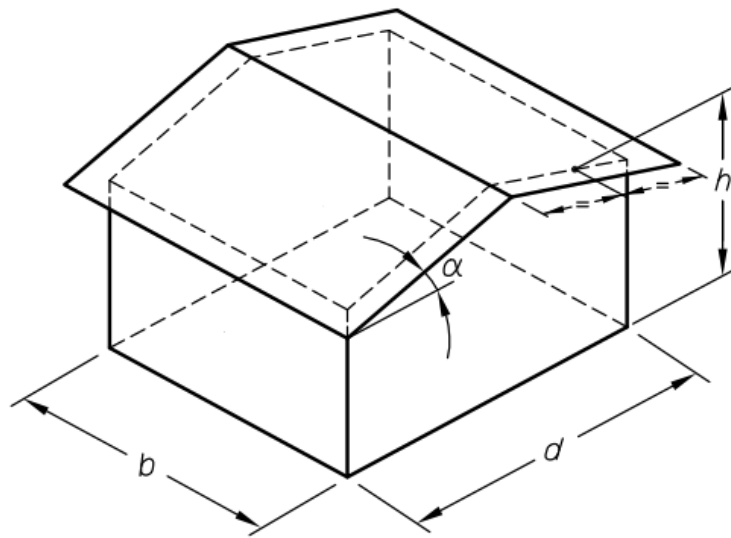
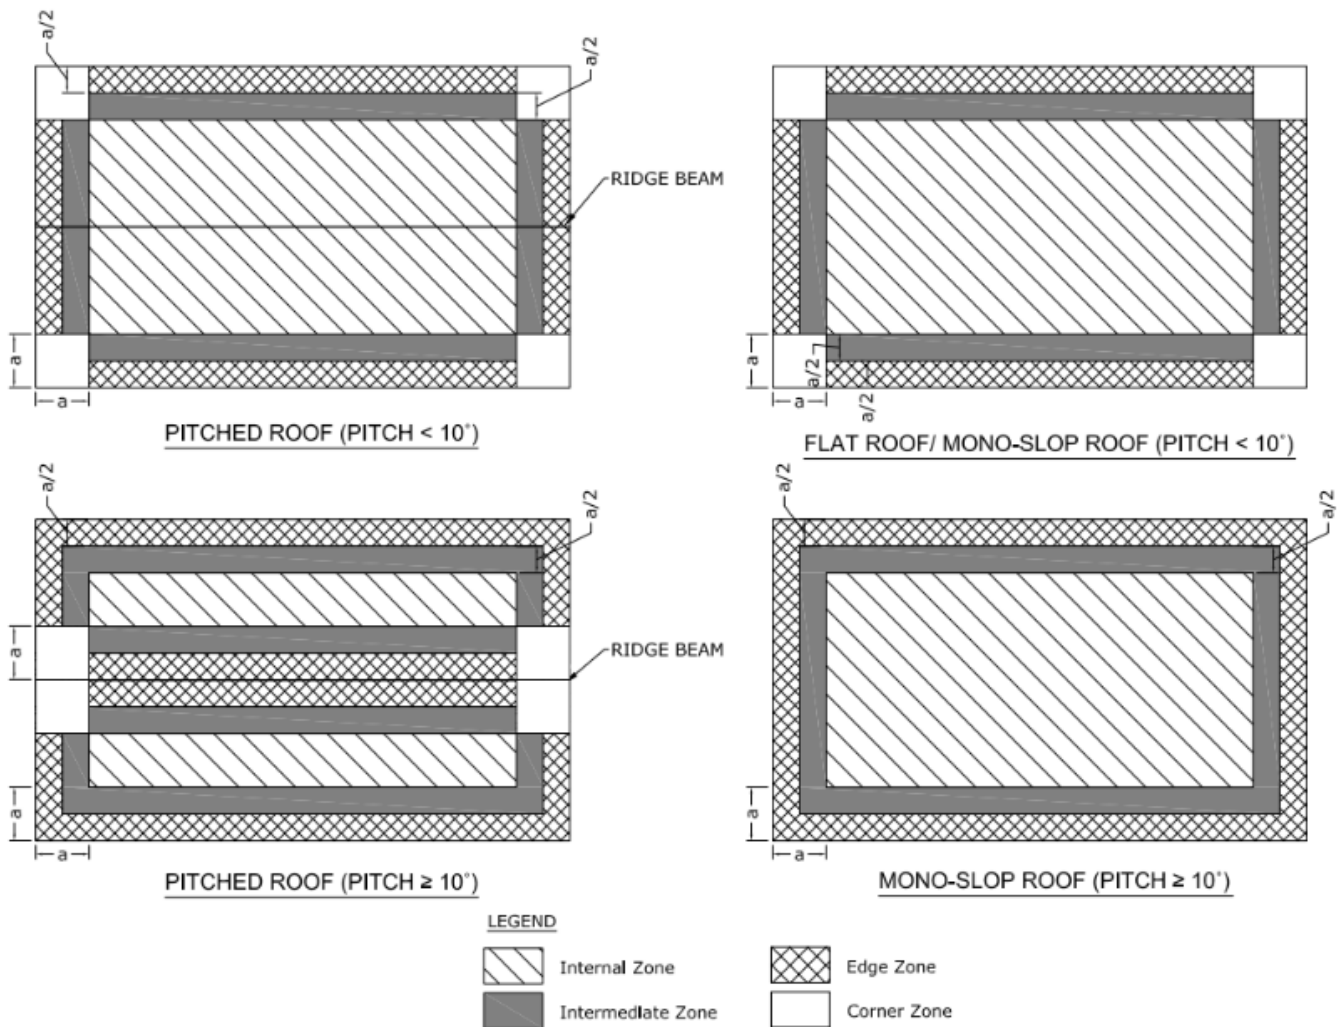

Figure 1 - Building Dimensions Definition
Figure 2 - Roof Zones Definition
For building dimensions definition, please see **Figure 1**.
For roof zones definition, please see **Figure 2**.
- Building aspect ratio **eArc panels attached to enclosed building with aspect ratios h/d ≤0.5 and h/b ≤0.5, see Figure 1**
In Figure 2, the value of dimension "a" is the minimum of 0.2b or 0.2d, if (h/b) or $(h/d) \geq 0.2$; or 2h if both (h/b) and $(h/d) < 0.2$ (b & d are building dimensions and h is average roof height, see Figure 1)